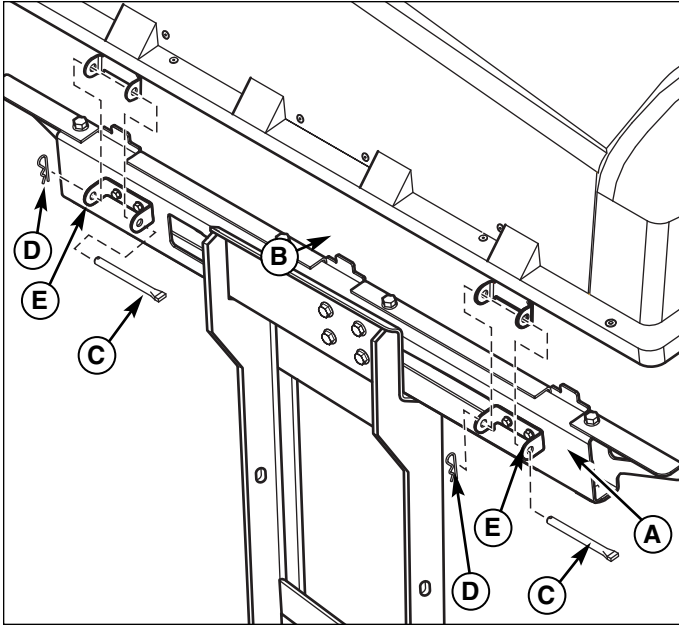

Figure 6. Install Cover Assembly
1. Attach cover assembly (B, Figure 6) to bag support bracket (A) using hinge pivots (E). Secure cover using cover hinge pins (C) and hair pins (D).